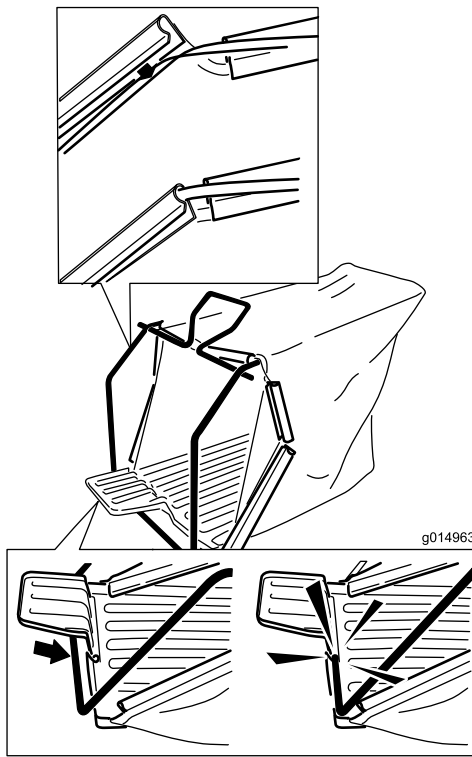

Figure 6
2. Snap the clips onto the wire frame as shown in Figure 6.